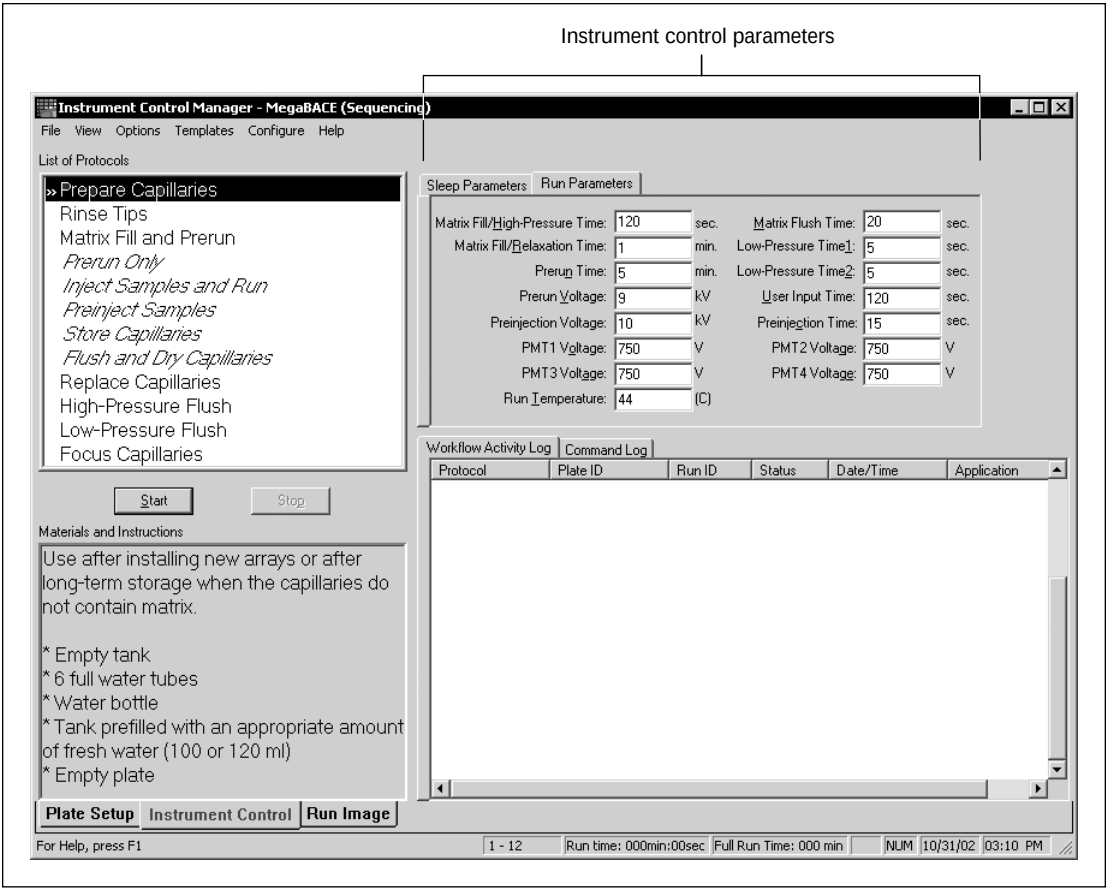

Figure 4-1. The Instrument Control window with the sequencing instrument parameters displayed.
The instrument control parameters are displayed in the Run Parameters tab and Sleep Parameters tab of the Instrument Control window (figure 4-1). The software includes the following instrument control template files (.icp):
The MegaBACE software includes instrument control templates (.icp files) that you can use. You can modify the existing templates to create new templates. You can create a template from the values entered in the Instrument Control window (figure 4-1), or you can create a template using a text editor or Excel (section 4.3). See tables 4-1 and 4-2 for a list of the parameters.
2. Click the **Instrument Control** tab to display the Instrument Control window (figure 4-1).
- Select the template (.icp) you want to modify, and click **Open**. The values of the selected template appear in the Instrument Parameters area (figure 4-1).